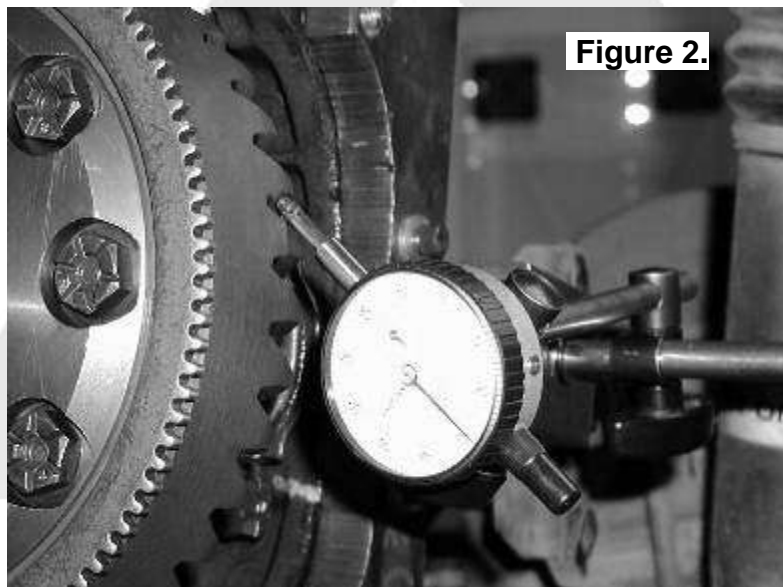

Figure 2.
- ☐ Set a dial indicator on one of the ring gear teeth. (Fig.2.)